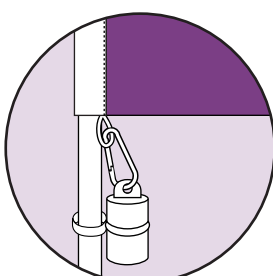

Fig 7.
8. Attach the weight onto the rope loop at the bottom of the flag. (see fig 7)